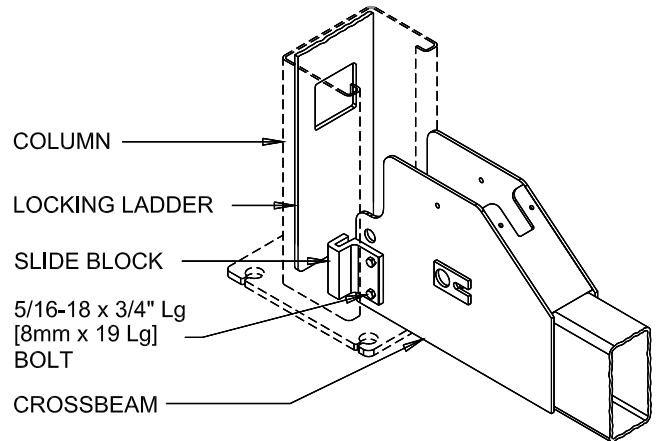

Fig 9 – Slide Block Installation
- 17) Slide power side column onto cross beam until the M8 threaded holes in the side of the beam are just exposed. Position slide blocks as shown in **Fig 9** and attach with M8 x 16mm lg. bolts (**apply thread locking compound before installing**).